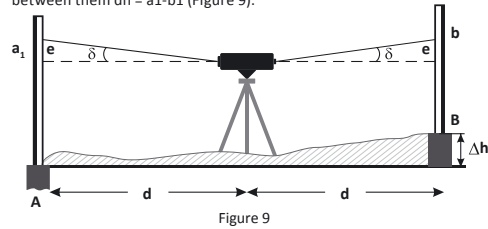

Figure 9
a) Set leveling staffs A and B at distance 50 m from each other. Set the instrument right in the middle between the staffs. Level the instrument and take the readings on the staffs A and B accordingly. Exceedence between them $\Delta h = a_1 - b_1$ (Figure 9).